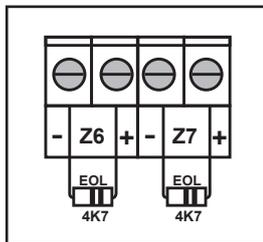

Figure 29. Unused zone inputs
**Bypasses are not considered "healthy" system states and are only used for tests or other exceptional conditions. Unused zones must not be bypassed; must be properly terminated on their input terminal block (see Figure 29 unused zone input).**